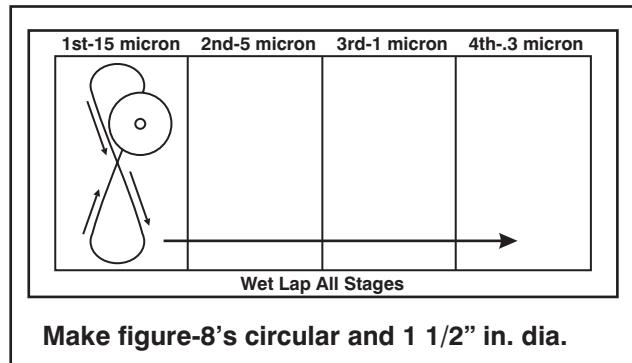

FIGURE 2 FIBER POLISHING
- 3.01 Insert connector ferrule into polishing puck and gently place onto 15 micron lapping film (see Figure 2).
- 3.03 Repeat polishing sequence using 5 micron, 1 micron and .3 micron lapping film remembering to clean off connector ferrule and puck(See Figure 2).